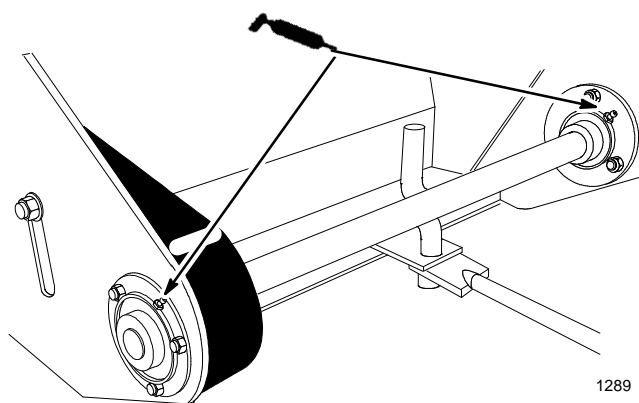

Figure 24
1. Lubricate the drive shaft bearings (Fig. 24).